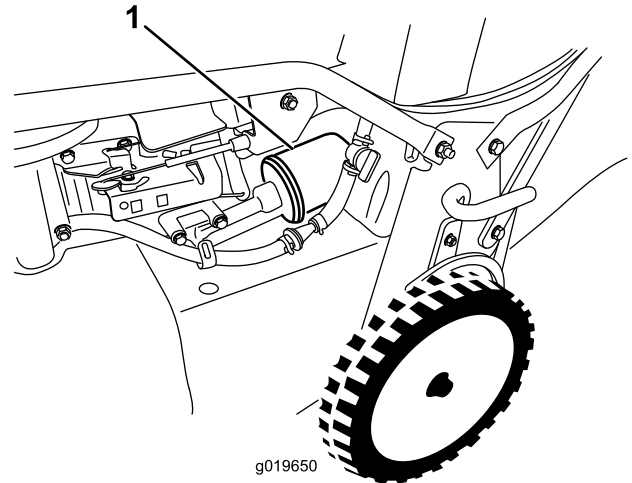

Figure 32
- Remove the oil filter (Figure 32).